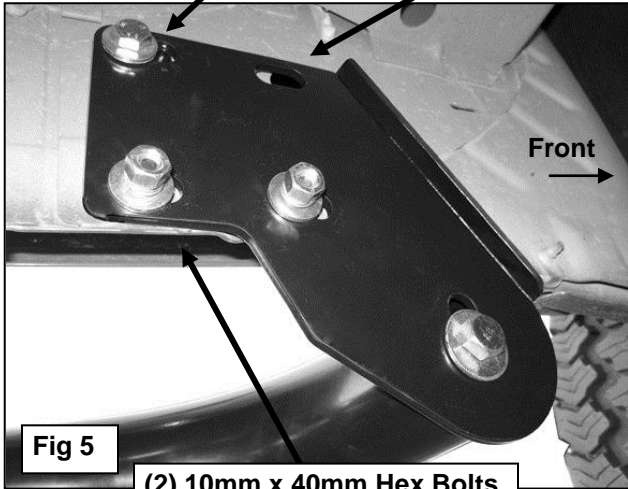

Fig 5
- Next, select (1) Front Bracket Spacer and (1) Driver Side Front Bracket. Line up the (2) holes in the Spacer with the Clip Nut and (1) hole in the pinch weld, **(Figures 3 & 4)**. Insert (1) 10mm x 40mm Hex Bolt, (1) 10mm Lock Washer and (1) 10mm Flat Washer through the top hole in the Bracket, the Spacer and into the Clip Nut, **(Figure 5)**. Leave hardware loose. Bolt the bottom of the Bracket to the pinch weld and Spacer with the included (2) 10mm x 40mm Hex Bolts, (2) 10mm Lock Washers, (4) 10mm Flat Washers and (2) 10mm Hex Nuts, **(Figure 5)**. **NOTE:** Insert Hex Bolts in from the outside, through the pinch weld and then the Bracket.
- With assistance, carefully place the Sidebar into position and attach it to the Mounting Brackets using the included (2) 1/2" x 2" Hex Bolts, (2) 1/2" Lock Washers and (2) 1/2" Flat Washers, **(Figures 5 & 8)**.